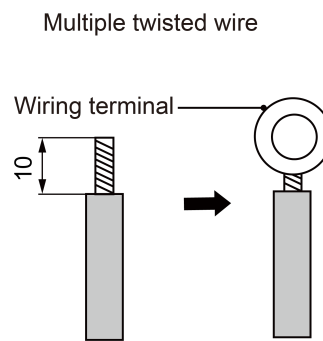

Fig 5.2
(2) Connection of Multi-twisted Wire (shown in Fig 5.2)